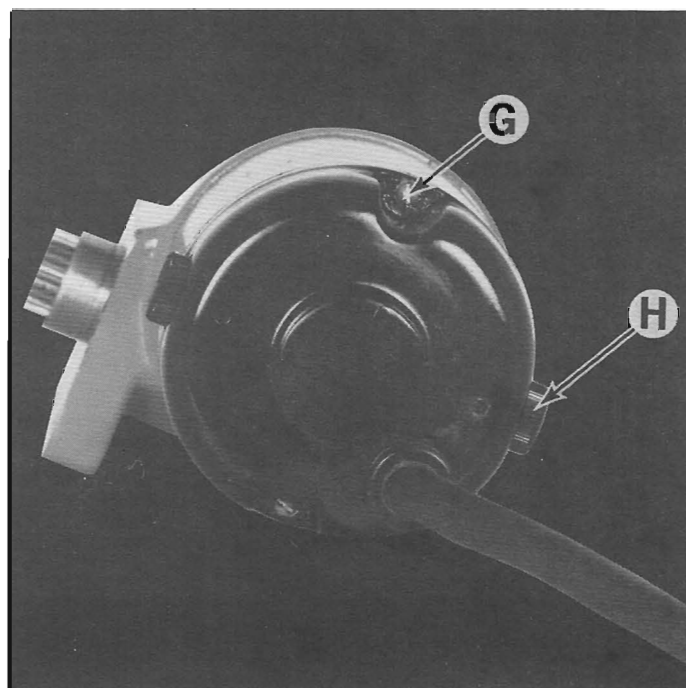

Figure 93 — Power Feed Drive
1. Remove motor brushes under two caps "H", Figure 93.